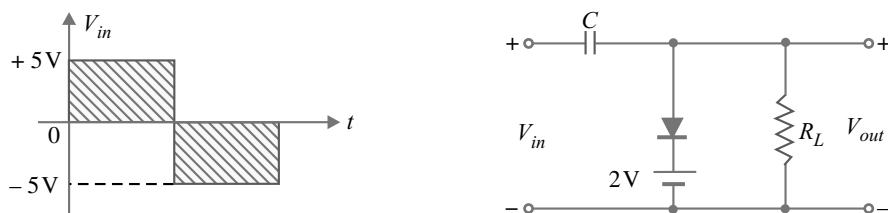

Fig. 16.62
**Example 16.23.** Sketch the output waveform for the circuit shown in Fig. 16.62. It is given that discharging time constant ( $CR_L$ ) is much greater than the time period of input wave.